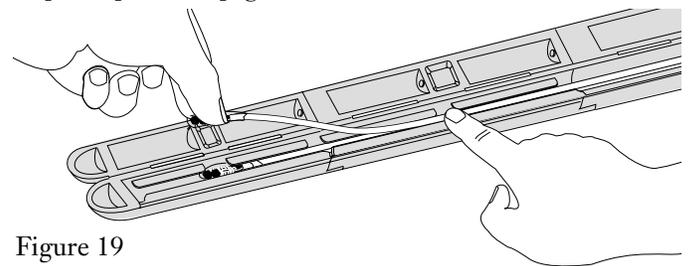

Figure 19
6.5 Starting with the leg on the bottom of the plug, gently feed each leg into the routing guides (Figure 19). *Skip to step 6.10 on page 6.*